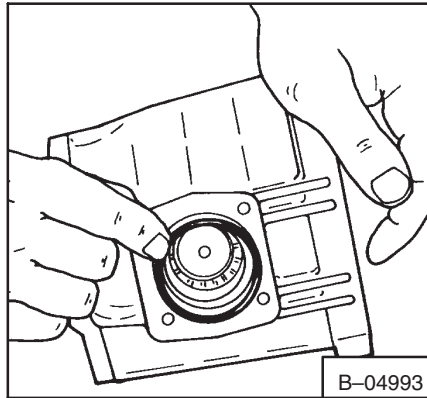

**Fig. 3-130** Installing Bearing Spacer
4. Install the bearing spacer on the short pintle shaft (Fig. 3-130).